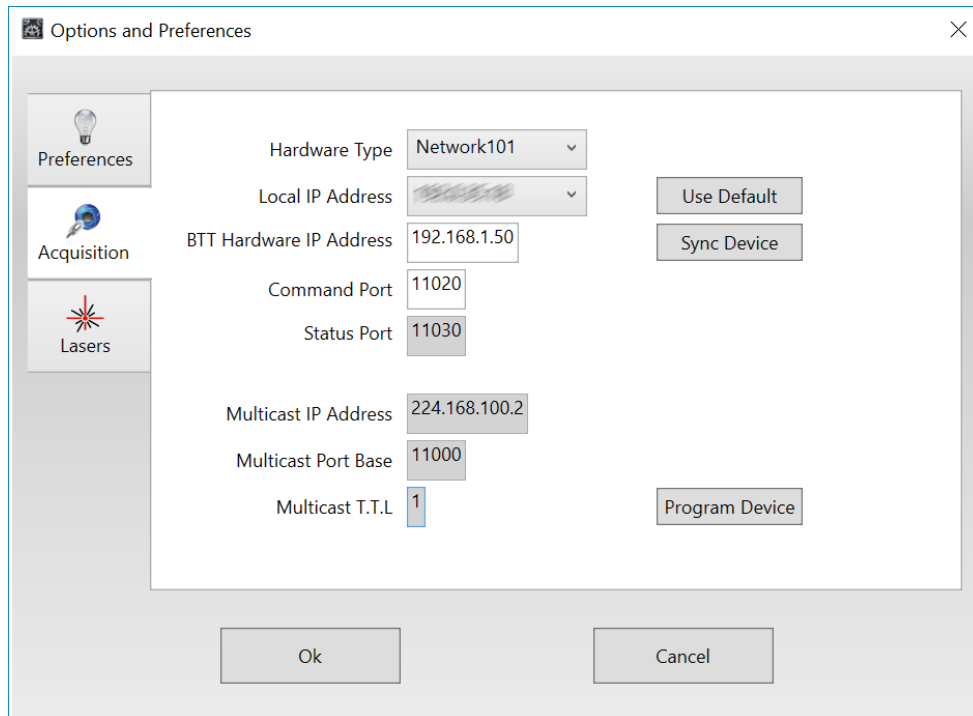

Figure 4 – Configuring the EMTD Network Acquisition Hardware
1.3.1. Figure 4 – Configuring the